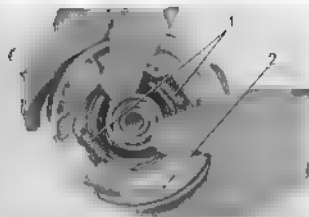

Fig. 4.86 Disassembling brake shoes
7. The brake shoes are held in place by springs (1) therefore, spread the shoes apart to disassemble from the brake panel. (Fig. 4.86)